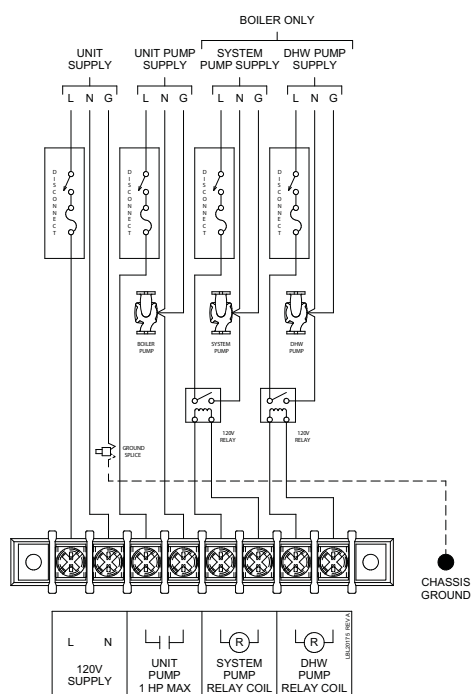

Figure 5-1_Line Voltage Field Wiring Connections
1. Connect 120 VAC power wiring to the line voltage terminal strip in the junction box, as shown in FIG. 5-1.
2. Provide and install a fused disconnect or service switch (15 AMP recommended) as required by the code (see FIG. 5-1).
3. To activate a system pump, wire as shown in FIG. 5-1. If the motor is larger than 1 HP, you must install a contactor.